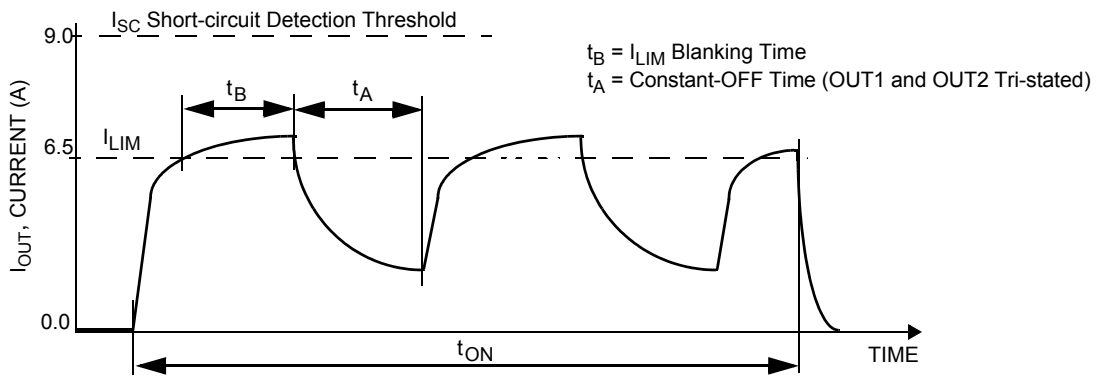
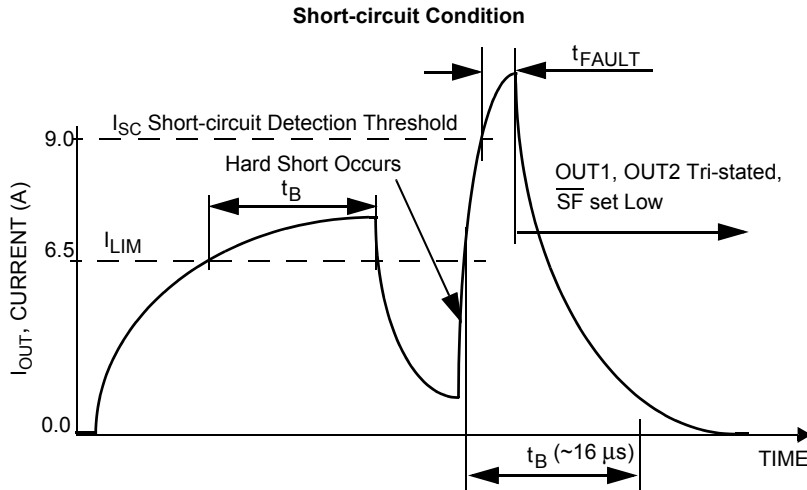
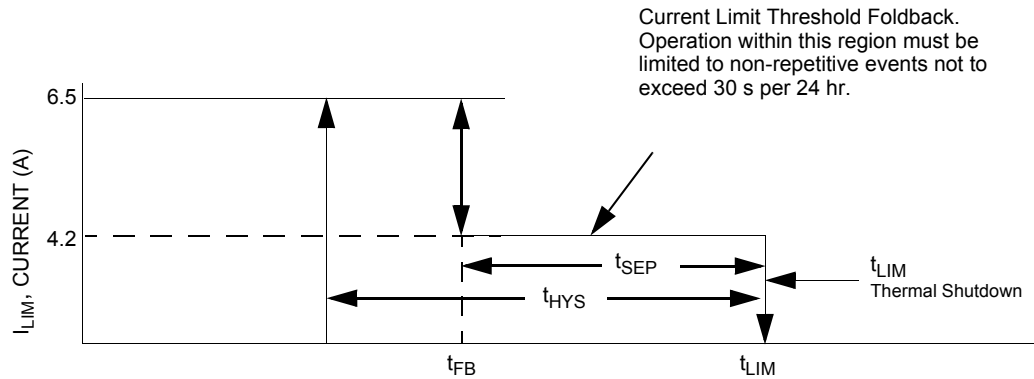

Figure 7. Current Limit Blanking Time and Constant-OFF Time
Figure 8. Short-circuit Detection Turn-Off Time t_{FAULT}
Figure 9. Output Current Limiting Foldback Region
28. Load currents ramping up to the current regulation threshold become limited at the I_{LIM} value (see Figure 7). The short-circuit currents possess a di/dt which ramps up to the I_{SCH} or I_{SCL} threshold during the I_{LIM} blanking time, registering as a short-circuit event detection and causing the shutdown circuitry to force the output into an immediate tri-state latch-OFF (see Figure 8). Operation in Current Limit mode may cause junction temperatures to rise. Junction temperatures above $\sim 160\text{ }^\circ\text{C}$ causes the output current limit threshold to “fold back”, or decrease, until $\sim 175\text{ }^\circ\text{C}$ is reached, after which the t_{LIM} thermal latch-OFF occurs. Permissible operation within this fold back region is limited to non-repetitive transient events of duration not to exceed 30 seconds (see Figure 9).